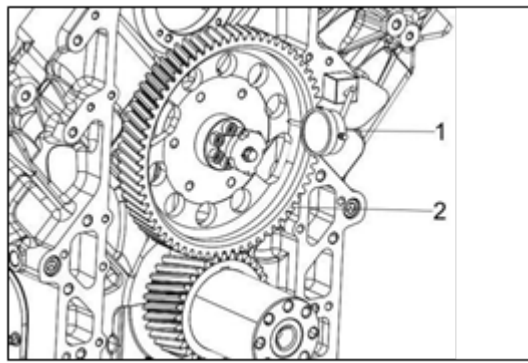

Figure 99.
1. Install a dial indicator (Figure 99, item 1) on the cylinder block. Move the camshaft (Figure 99, item 2) back and forth to measure the end play. Record the measurement. See Camshaft specifications for the service limit.